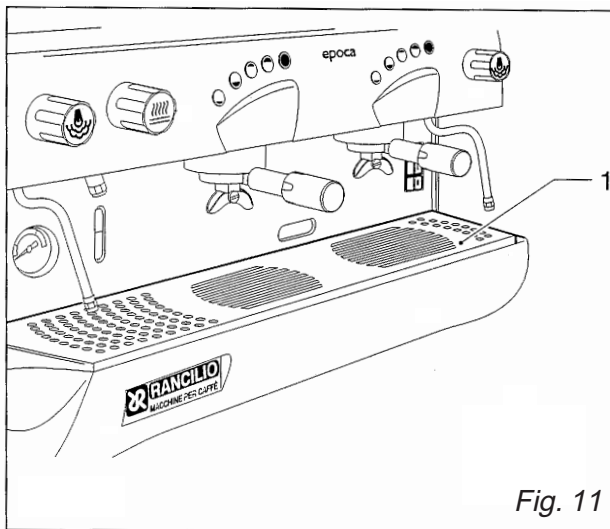

Fig. 11
- Remove the cup rack (Fig. 11 - 1), slide out the drip tray and clean them both.